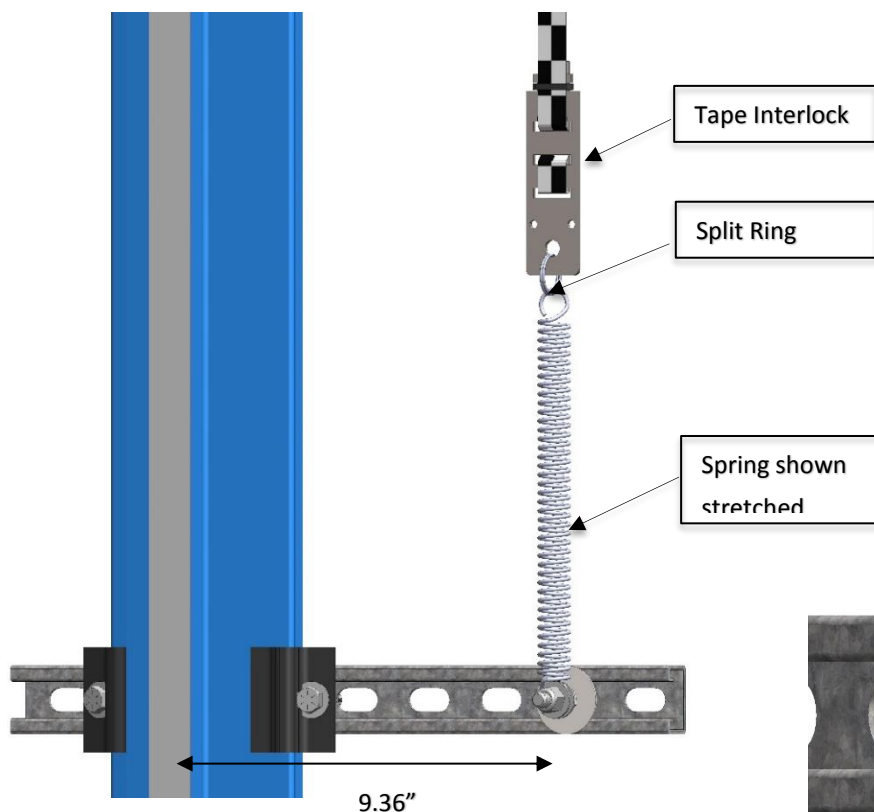

Figure 17: Lower Tape Installation
- Loosely assemble the Lower Tape Mounting Assembly in the order shown in figure 17.
- Thread the Nylock nut onto the bolt until the two flat washers that are on either side of the Spring are just touching the spring loop as shown in figure 17. This nut does not need to be tightened.